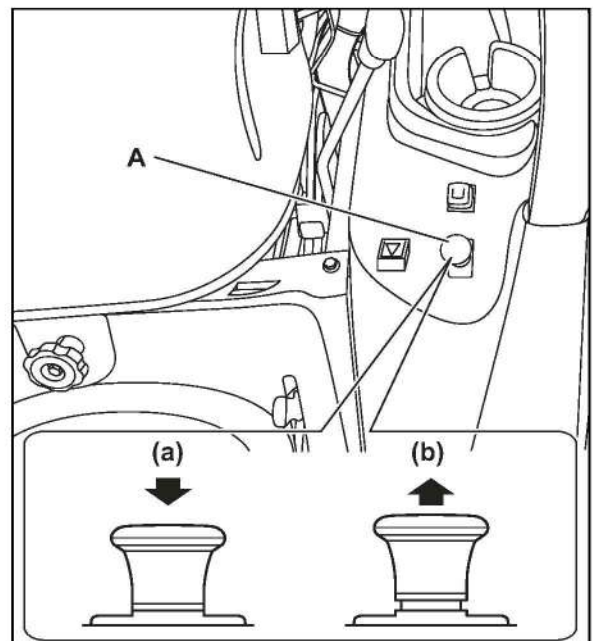

Fig 5-31
### (17) Power Take Off (PTO) switch (Fig 5-31)